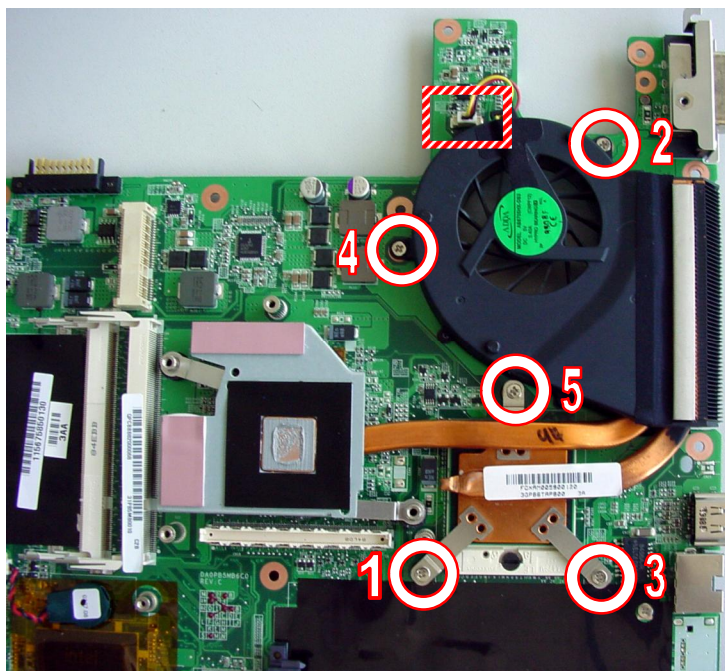

Fig. 35 Location of CPU fan and heat sink.
2. Turn the five screws securing the heat sink and CPU fan loose in designated order (see Fig. 35).